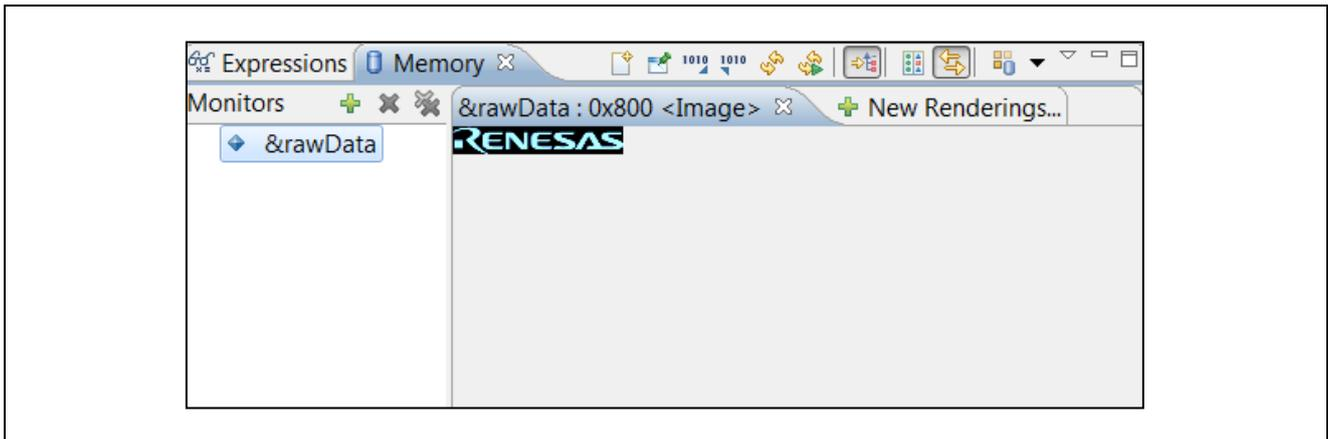

Figure 6 Memory Rendering Pane – ‘Renesas’ Logo
- 4) Click  to execute a section initialization routine (ie. function “_INITSCT()”) for sections initialization to reflect the memory monitor “&rawData” in the Memory Rendering pane. As shown in Figure 6, the ‘Renesas’ logo is displayed in Memory Rendering pane.